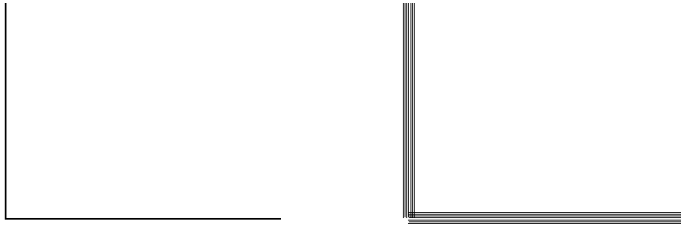

Figure 18.3: Lines drawn with a line weight of 4 and printed with a pen width setting of 12 (left) and 95 (right)
- *Pen Width* - determine if you have lines in your drawing with a line weight above “1.” If so, you can change the amount of space between pen passes when printing these thicker lines (see Figure 18.3). Click on Pen Width in the Print/Plot menu and use the value menu to enter a width.